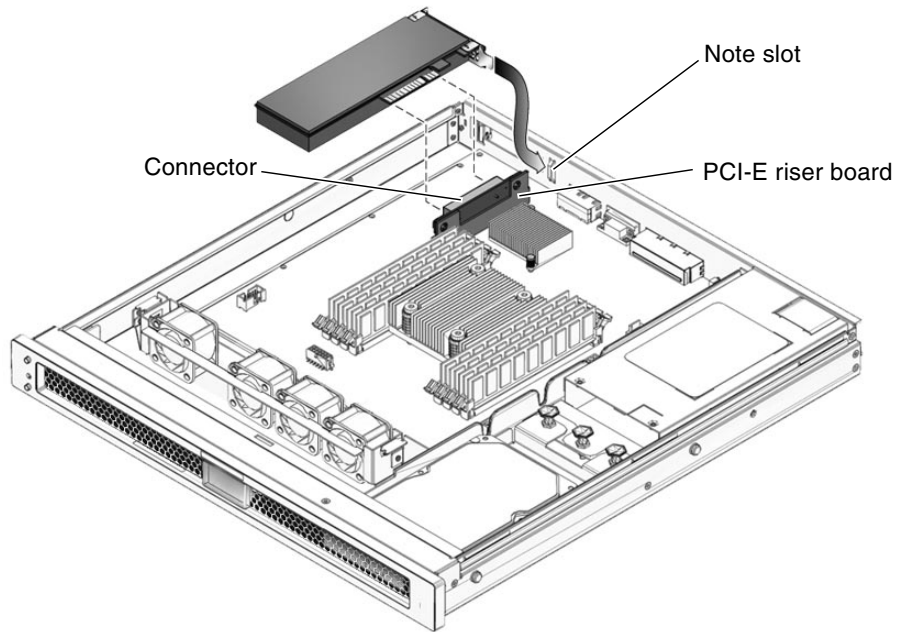

FIGURE 5-2 Removing and Installing the PCI-Express Card
- Carefully pull the PCI-Express card out of the connector on the PCI-Express card riser board and the note slot (FIGURE 5-2).
- Insert the PCI-Express card into the connector on the PCI-Express riser board and the note slot (FIGURE 5-2).